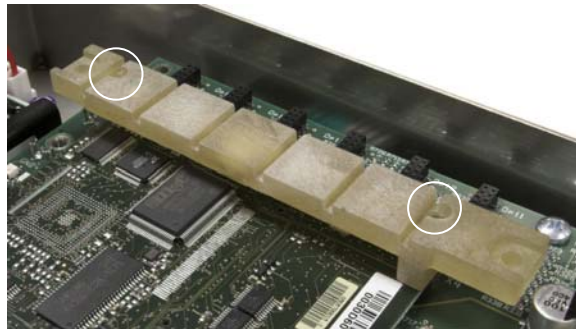

Figure 3-41: Lower Card Guide Screw Locations
- A. For a panel mount terminal, install screws in the center holes and in the four hex post stand-offs in the outer holes (see Figure 3-41).
1. Remove the two screws holding the lower card guide and the ETX board to the main PCB (Figure 3-39). The locations of these screws are indicated in Figure 3-41.